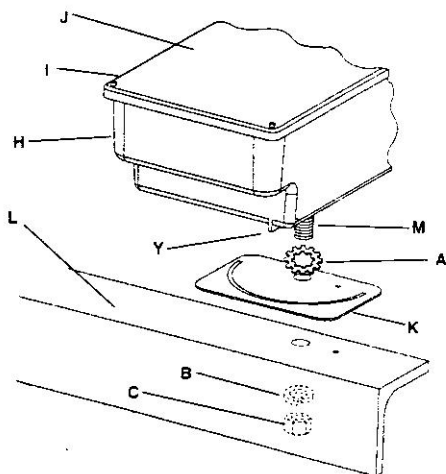

FIGURE 2
## MOUNTING INSTRUCTIONS: (See Figure 2)
**WIRING INSTRUCTIONS:** (See Figures 2 & 3)
**NOTE:** All wiring is to be done in the wiring compartment (H) at the rear of the ballast housing. Use minimum 90°C SOWA cord. (14/3 cord is required for fixtures using 1500 or 1650 watt lamps when fixtures are wired for 120V).
1. Loosen (5) cover screws (1) and set cover aside. Removal of green wire tether is not recommended.
2. Feed supply cord (N) into ballast housing through the wireway hole (O) in the bottom of the wiring compartment (H), through the properly sized rubber seal (P) and center hole in the retaining plate (Q).
4. Tighten the (2) screws (R) to retain the supply cord.
6. Attach ground lead to green ground screw inside wiring compartment and replace cover (J), ensuring that no wires are pinched inside housing.
To position the fixture horizontally: (See Figure 2)